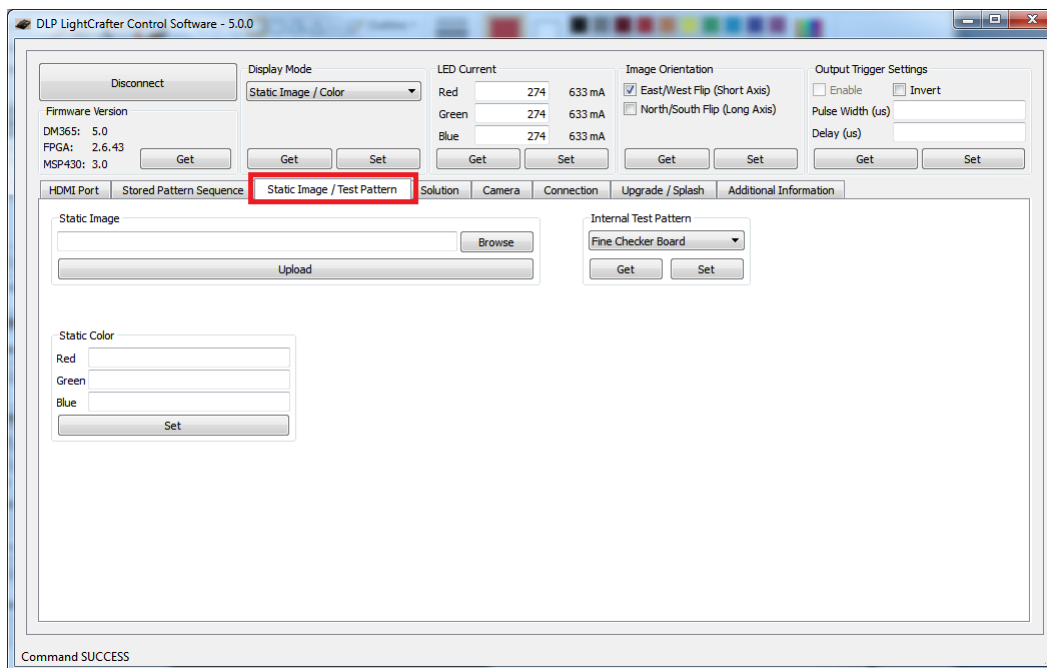

Figure 2-49. DLP LightCrafter GUI Static Image and Test Pattern Tab
2. Select "Static Image / Test Pattern" tab. See Figure 2-49.
2. Select "Static Image / Test Pattern" tab as shown in Figure 2-49.